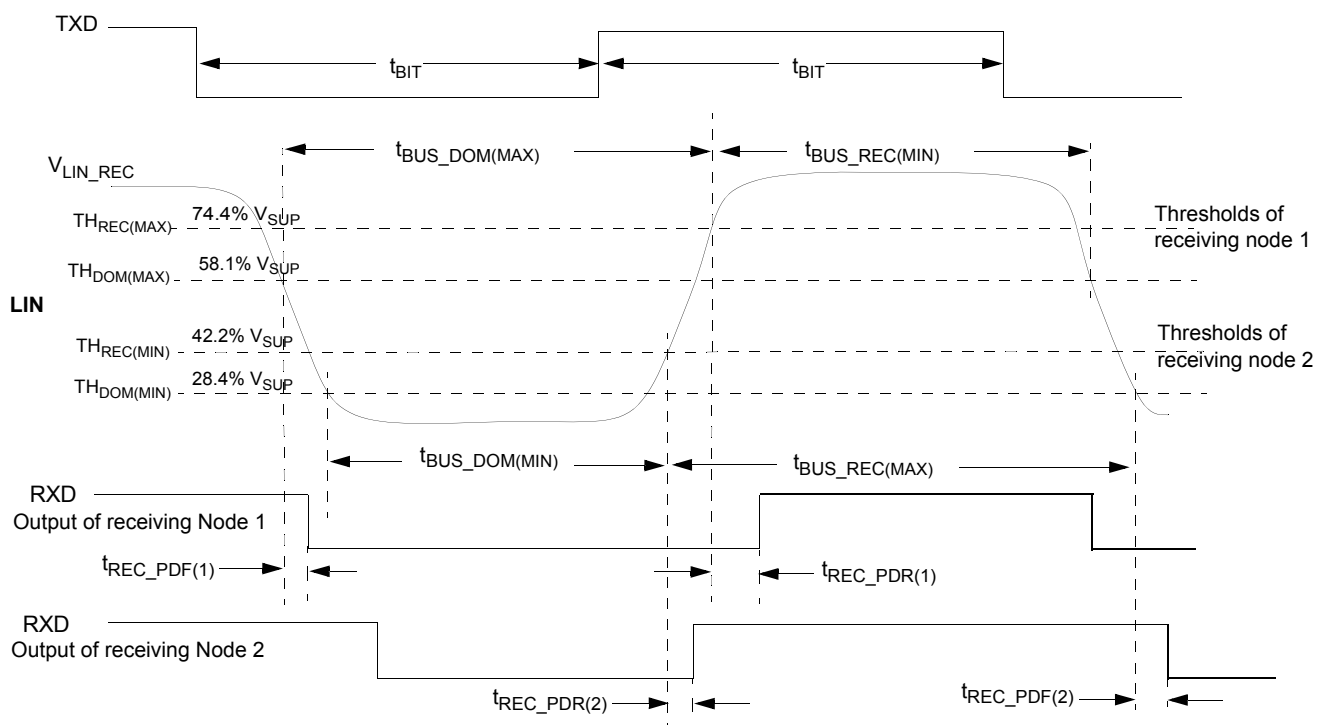

Figure 18. LIN timing measurements for normal slew rate
Bus load  $R_{\text{BUS}}$  and  $C_{\text{BUS}}$  1.0 nF / 1.0 k $\Omega$ , 6.8 nF / 660  $\Omega$ , 10 nF / 500  $\Omega$ . See Figure 18, page 30.
**LIN physical layer: characteristics and wake-up timings.  $V_{\text{SUP}}$  from 7.0 to 18 V, bus load  $R_{\text{BUS}}$  and  $C_{\text{BUS}}$  1.0 nF / 1.0 k $\Omega$ , 6.8 nF / 660  $\Omega$ , 10 nF / 500  $\Omega$ . See Figure 18, page 30.**